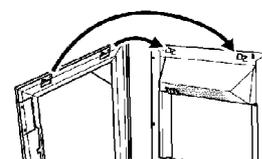

Figure 7
- Carefully lift the front surround. Hook the front surround onto the retaining plates on the heater body and lower the front surround down – See figure 7.